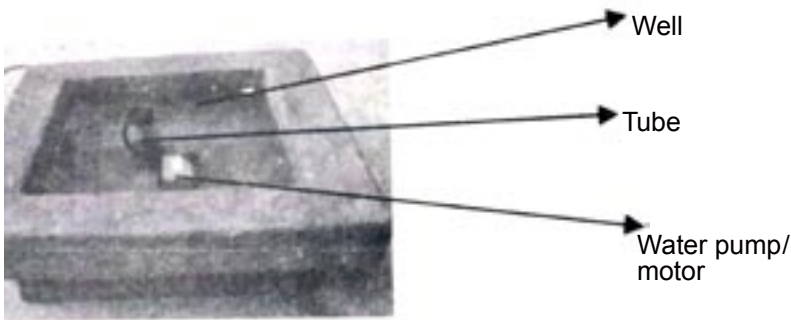

Figure 1
2. Put electrical cord from pump through opening in fiberglass tube in base of fountain. Stretch black rubber cap over and slide down on fiberglass tube (fig. 1). Align cord through notch on the bottom of one side of the base of the fountain.